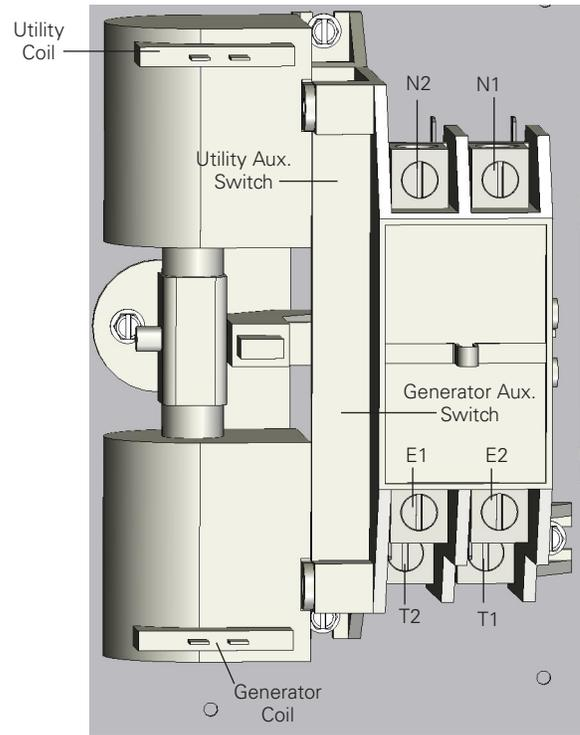

Figure 25. Replacing the Contactor.
- Step 2: Note their location then disconnect the twelve (12) red control wires from the contactor (see Figure 25).
- Step 3: Remove the four (4) screws securing the contactor to the base plate using a blade screwdriver or 0.25 in. socket or nut driver. Remove the contactor.
- Step 6: Reattach the twelve (12) red control wires to the contactor. Examine each wire to find the name then refer to Figure 25 for the correct connection point.
Step 3: Note their location then disconnect the red wires from the contactor (see Figure 25).